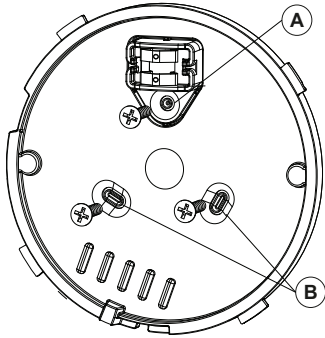

Figure 4. Fastening the bracket
1. Mark and drill two holes in the mounting surface. If you install tamper protection on the detector, mark and drill one hole for the tamper protection and one hole for one of the other available slots (see Figure 4).